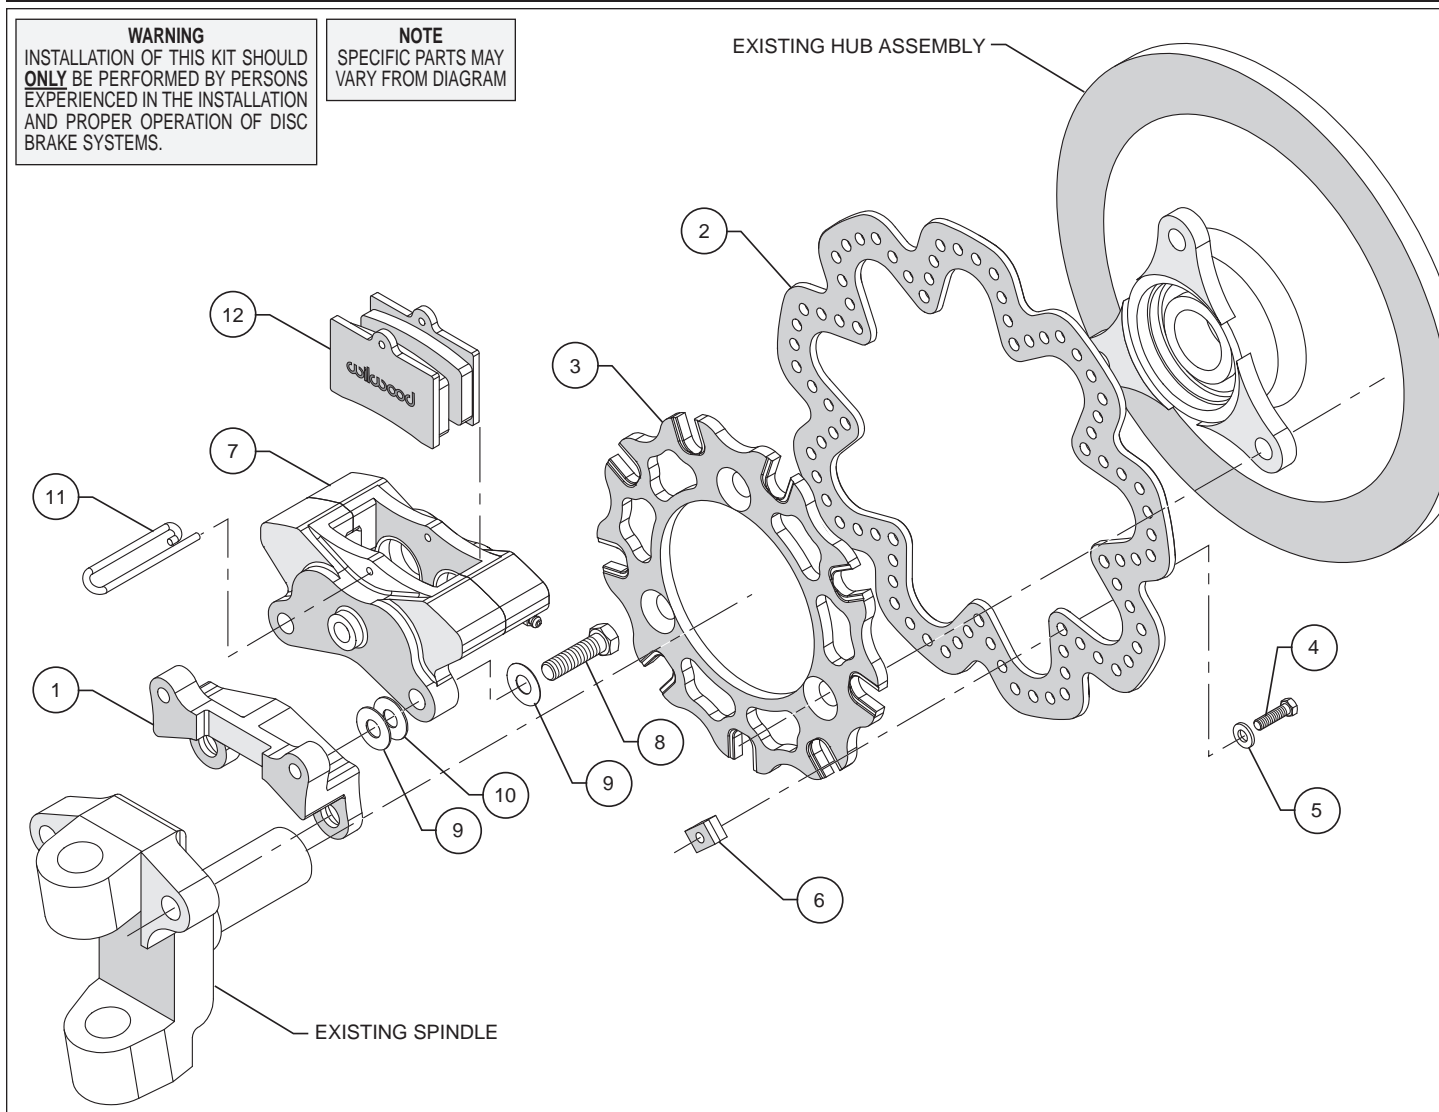

Figure 1. Typical Installation Configuration
- The caliper mounting bracket assembly (1) should be installed first with clean, dry threads on the mounting bolts. Install the bracket on the outboard side of the spindle by sliding customer furnished bolt and washer through the mounting holes and into the backside of the spindle (see Figure 1). The bracket must tighten squarely against the side of the spindle body. Inspect for interference from casting irregularities, machining ridges, burrs, etc.
- Mount the rotor adapter (3) with the notched t-nut slots facing inboard to the rotor (2) using bolts (4), and washer (5) slid through rotor holes from the outboard side and into the t-nut (6). Apply red *Loctite*[®] 271 to the bolt threads and torque bolts (4) to 120 **in-lb**.
- Slide the rotor/adapter assembly onto the hub assembly and secure using customer supplied hardware by sliding the bolt thru the ears on the hub assembly from the outboard side and screw into the adapter (3).
- Install the caliper (7) on the outboard side of the bracket (1) by sliding bolt (8) thru washer (9) and into the caliper mounting bracket (1). Initially place one shim each (9 and 10) between the caliper (7) and caliper bracket (1). The caliper bleed screws should be horizontal to the bracket (1). Snug the bolts (8) and check that the rotor (2) is centered in the caliper (7). Add or subtract .035" shims (9) and/or .016" shims (10) as necessary between the caliper mounting bracket (1) and the spindle to center the caliper (7) on the rotor (2).
- Remove the pad pin retainer (11) from the caliper (7). Slide the brake pads (12) into place. They should install easily without interference. Reinstall the pad pin retainer (11).